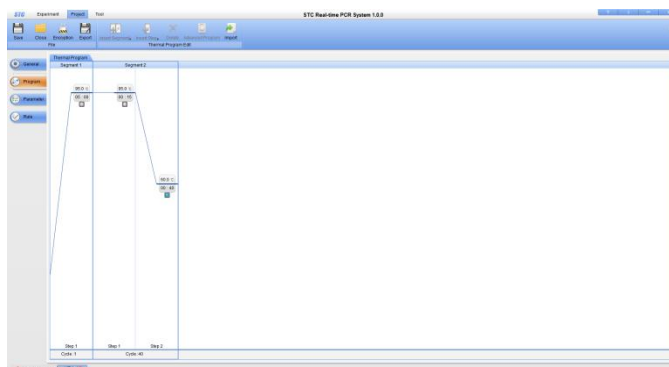

Fig 5- 4
- 4 Click on the **Program** tab to go to the thermal program screen (Fig 5- 4). A PCR thermal Program usually contains 2 to 3 segments, each containing several steps, and sometimes with a Melting Curve.